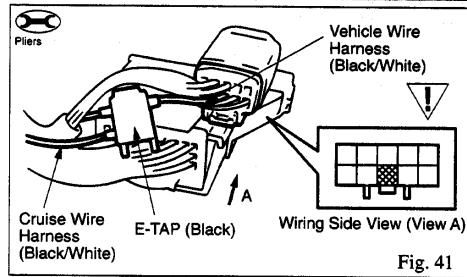

Fig. 41
- (18) Connect the **(F)** ("D" position) E-tap to the vehicle wire harness. (Fig. 41)